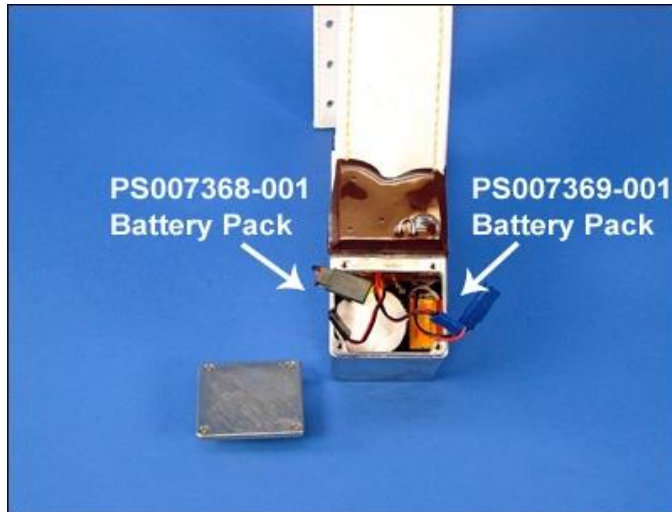
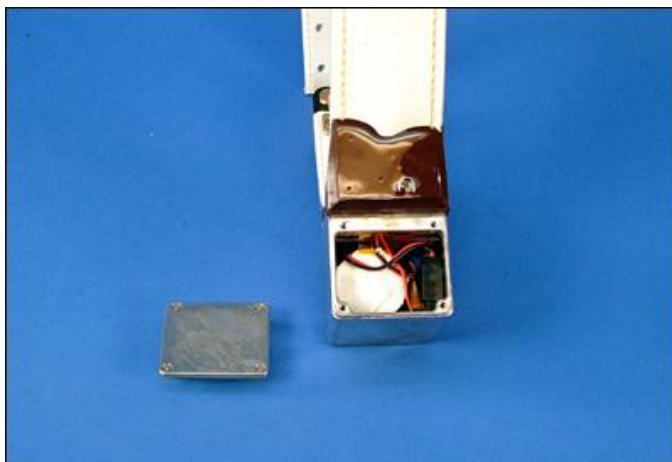

Fig. 5 Battery packs replaced and ready to be connected
Fig. 6 Batteries installed, leads and connectors in place
1. Obtain a new VHF battery pack **PS007369-001** with a blue connector and slide it into the VHF battery position. Mate the blue battery pack connector with the blue VHF power connector. Also obtain a new GPS battery pack **PS007368-001** with a black connector and insert it into the GPS battery position. **(Fig. 5)** Mate the black battery pack connector with the black GPS power connector **(Fig. 6)**.
2. Dress and fold the power leads and battery pack connectors on the top of the VHF battery pack **(Fig. 6)**. Make sure to tuck all power leads, and connectors inside the opening and below the sealing edge of the housing. Make sure the sealing edge of the housing and the cover plate are clean and free of contamination. Debris trapped between the housing and cover plate will result in moisture penetration and premature failure.